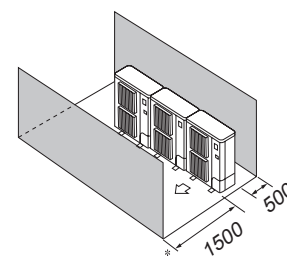

Fig. 3-15
- Obstacles at front and rear only (Fig. 3-15)